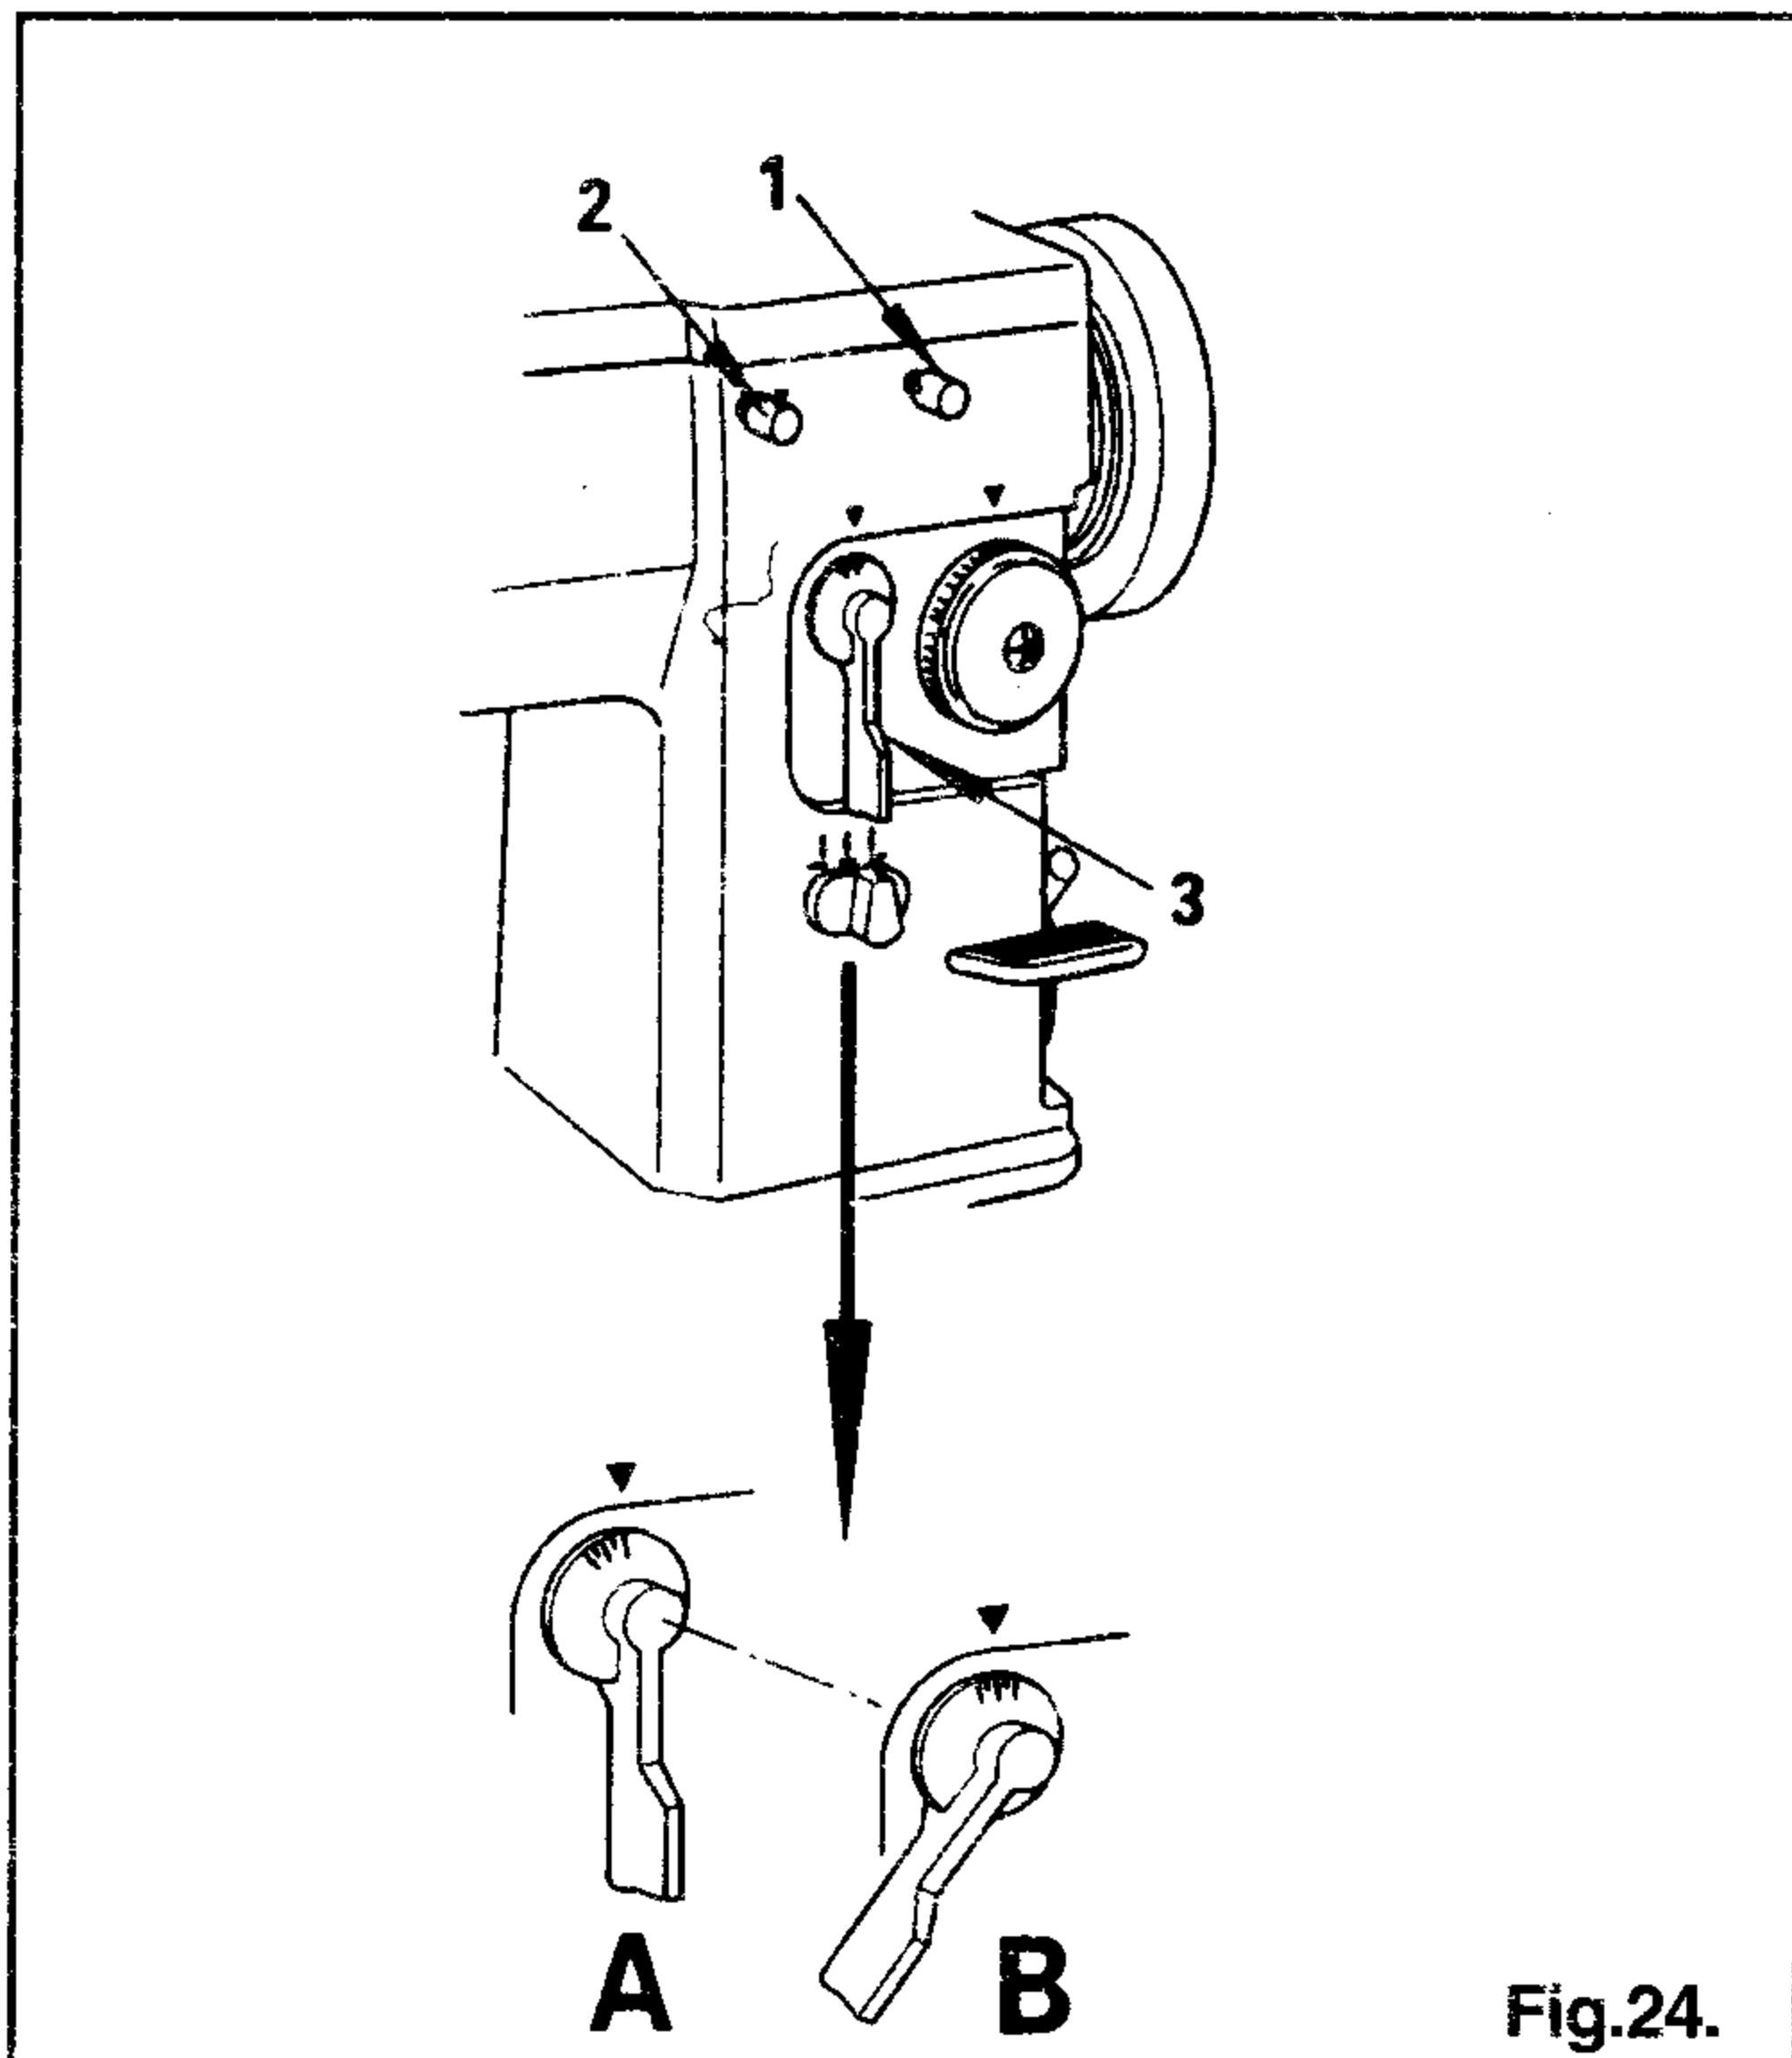

Fig.24.
To obtain minimum to maximum width zigzag stitches, first loosen thumb screw (2) ,Fig.24, to permit the stitch width regulator (3), Fig.24 to return to its zero position (see A, Fig.24) and retighten thumb screw (2).
Then loosen thumb screw (1), Fig.24. turn stitch width regulator (3) clockwise as far as it will go and while holding the regulator (3) in this position (see B, Fig.24), retighten thumb screw (1).